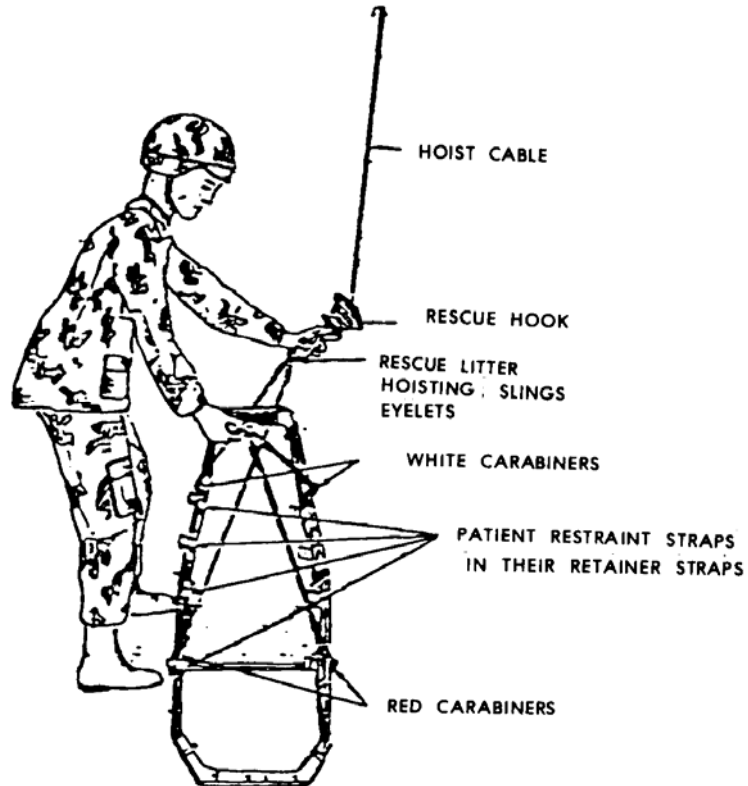

Figure 5-17. Detaching hoist straps of Stokes litter from the hoist hook.
- d. After the litter touches the ground and the accumulated static electricity is discharged, the personnel on the ground disconnect the hoist straps from the hook (figure 5-17), place the casualty into the litter, secure the casualty to the litter, reconnect the hoist straps, and notify the hoist operator that the casualty is ready to be lifted.